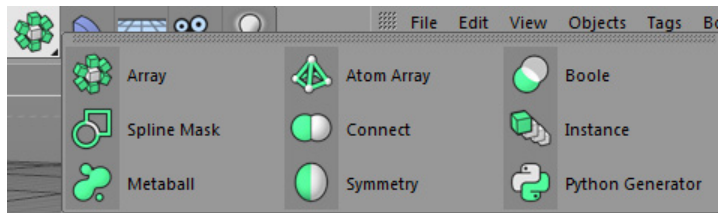

Figure 2-16 Choosing Boole from the flyout
8. Press and hold the left mouse button on the **Array** tool in the Command Palette; a flyout is displayed. Next, choose **Boole** from the flyout, as shown in Figure 2-16; *Boole* is added to the Object Manager. Now, select *Extrude.1* and drag the cursor to *Boole*; *Extrude.1* is connected to *Boole*.